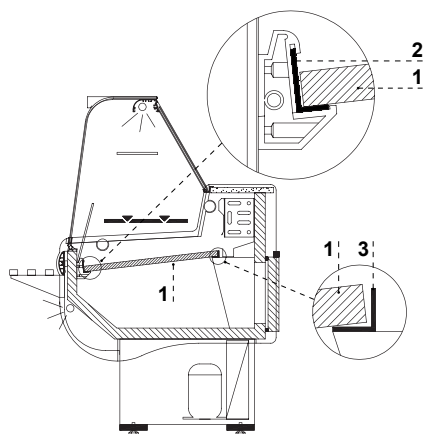

Fig.3 Assembly of display shelves
1. Mount display shelves Fig.3/1